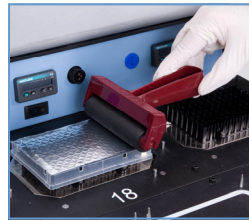

Figure 5. Roll film to ensure a good seal.
2. The instrument will dispense 40 µl of diluted Random Nanomers of Cy-3 to columns 1 & 3, and Cy-5 to columns 2 & 4 of the DNA plate and then pause. Seal the plate with PCR Plate Sealer (Figure 5) and place it in position 19 at 95 °C.